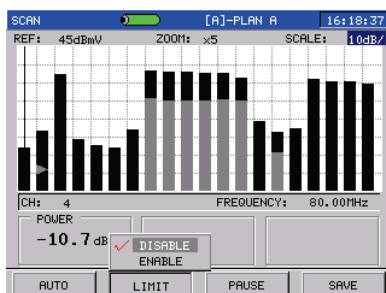
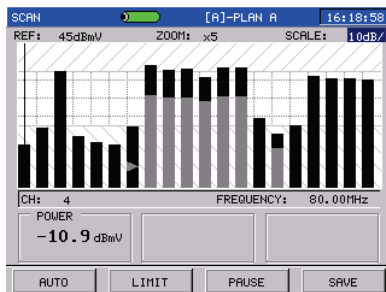

Figure 3-5-2
Figure 3-5-3
**LIMIT(F2):** After Pressing LIMIT soft key and choosing **ENABLE** as Figure 3-5-2, limit display will be enable as Figure 3-5-3, and there are two lines that means the highest and lowest video level. The channels between the two lines are eligible. The information of current channel will display on the bottom of screen.(Limit parameters setup, please refer to item 4.4.4)